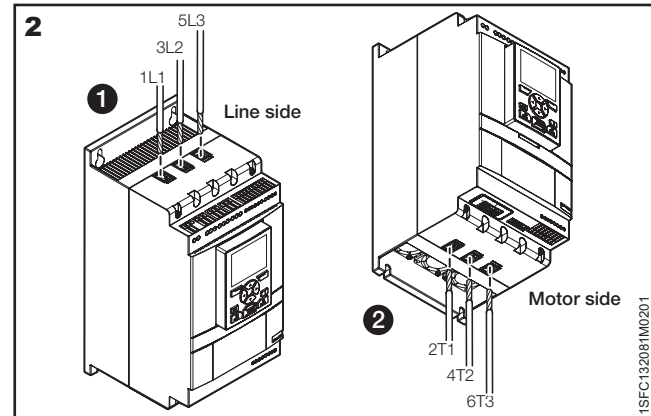
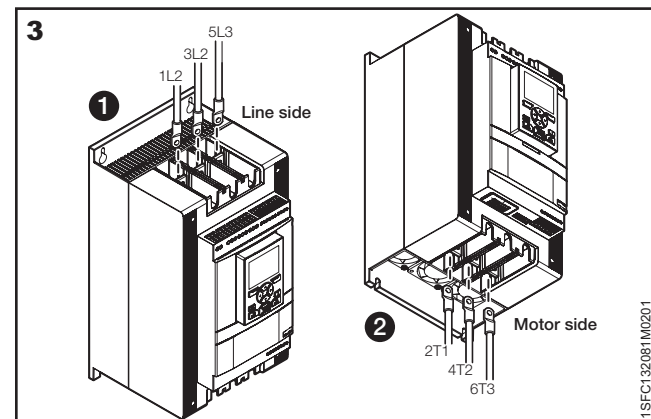

Figure 2: Terminal connection clamps
Figure 3: Terminal connection bars
Use wire connection for PSTX30...PSTX105 see **Figure 2** and terminal connection for PSTX142...PSTX170 see **Figure 3**.
- Connect the line side to terminals 1L1, 3L2, 5L3, see **1** in **Figure 2** and **3**.
- Connect the motor to terminals 2T1, 4T2, 6T3 on the motor side, see **2** in **Figure 2** and **3**.